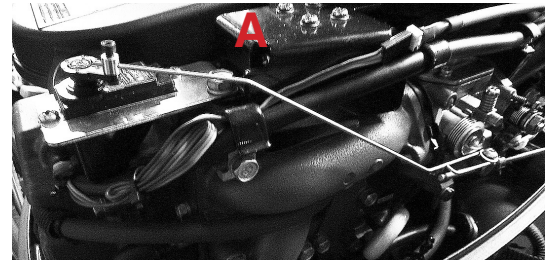

Figure 7
**NOTE: Fig. 7 shows servo with arm attached. DO NOT attach servo arm and pull rod until Step 15!**
Tiller motors do NOT have the electric choke box "A" in Fig 7.